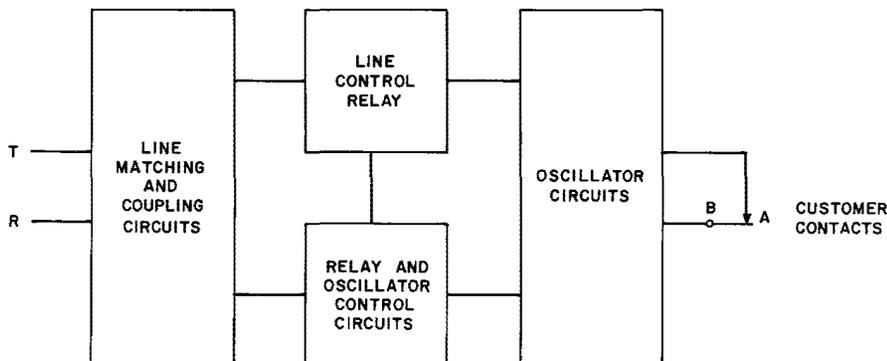

Fig. 2—Data Set 114A—Block Diagram
2.04 Refer to Fig. 2 and the following text for a brief description of the operation of the data set.